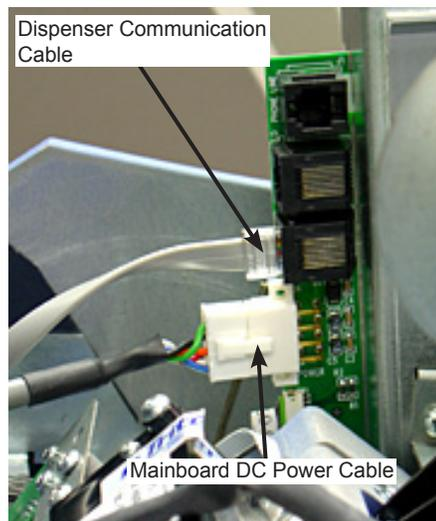

Figure 5. DC power connection at J4 on the Mainboard
5. Refer to Figure 5. Disconnect the DC power cable for the mainboard at J4 (located on the inside edge connector of the mainboard).
up into the top cabinet enclosure. Refer to Figure 5. Leave the other end connected at J3 (located on the inside mainboard edge connector of the mainboard).